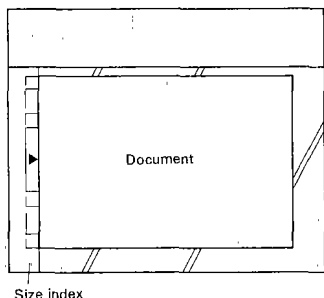

Figure 1-5
- ⑫ **TONER OUT Indicator**
- ⑬ **DRUM UNIT Indicator**
- See Figure 1-5.